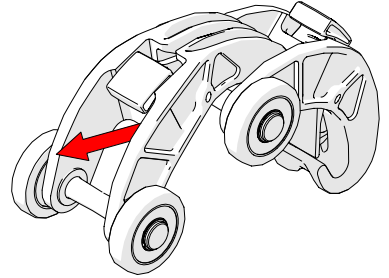

Fig. 69 - Pull the link backwards to secure catch
2. Pull the QuickLink until you hear a click that ensures the latch has been set (Fig. 69).